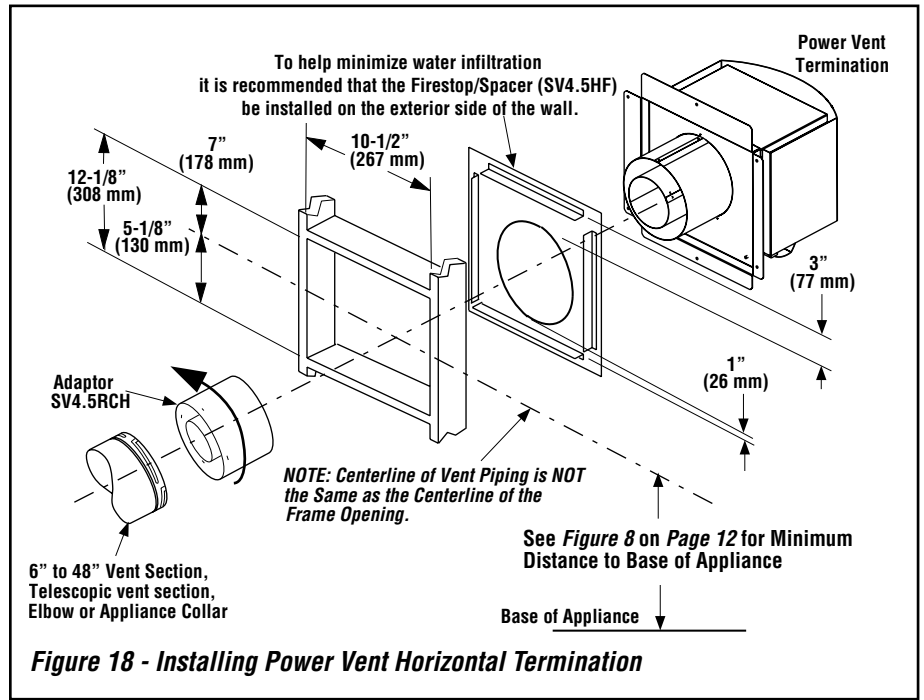

Figure 18 - Installing Power Vent Horizontal Termination
J. Assemble vent run to exterior wall - If not previously measured, locate the center of the vent on the exterior wall. Prepare an opening as described in this manual. Assemble the vent system to a point where the terminus of the last section is within 8" of the outside wall surface where the power vent is to be mounted (see **Figure 18 on Page 19**).
K. Attach termination adaptor - Attach the adaptor (SV4.5RCH - provided with the power vent kit) to the vent section telescoping vent section, or elbow, as shown in **Figures 18 and 19 on Page 19** in the same manner as any SV4.5 vent component.
Install SV4.5HF Firestop/Spacer, provided with the power vent kit, over the opening at the exterior side of the framing, long side up, with the 3" spacer clearance at the top as shown in **Figure 18**, and nail into place. The Firestop/Spacer may also be installed over the opening at the interior side of the framing. The gap between the vent pipe and a firestop can be sealed with noncombustible caulking.